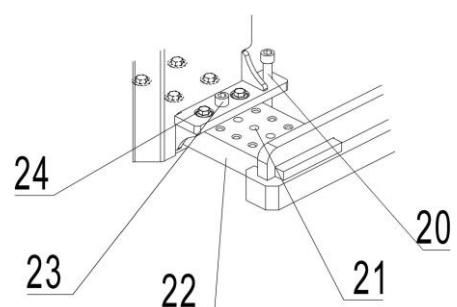

Fig.16: Adjust the legs
- Tighten the positioning bolt (23) after adjusting the legs.
- When adjusting the legs, please pay attention that the number of positioning holes (21) exposed on each side of the legs should be same. (as shown in Fig. 16, if one side has 3 positioning holes(21), the other side should also be 3).
- Turn clockwise the supporting assembly(20) on both sides of the truck until jacking up the truck.
- Screwed out the positioning bolt (23)and lock bolt (24). **Note: screws (24) are also located inside the battery compartment.**
- Adjust the leg (22) until the corresponding positioning hole (21) is adjusted to the under face of the positioning bolts (23).
When adjusting the legs, please pay attention that the number of positioning holes (21) exposed on each side of the legs should be same. (as shown in Fig. 16, if one side has 3 positioning holes(21), the other side should also be 3).
- Screw the positioning bolt (23) tightly and tighten bolt (24) **outside and inside the battery compartment.**
- Turn anti-clockwise the supporting assembly(20) on both sides of the truck until the supporting assembly can't be turned anymore.